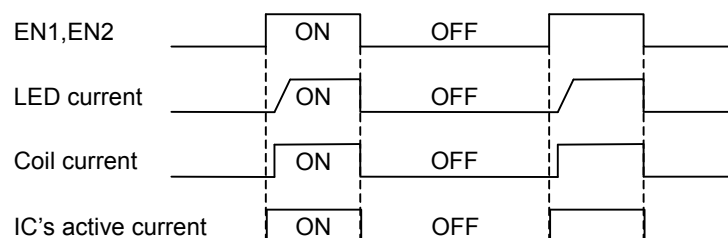

Figure 8. Power control PWM control
2)Power control PWM control is controlled by providing PWM signal to EN1, EN2 as it is shown Figure 8. The current setting set up with PWM logic is chosen as the H section of EN1, EN2 signal and the current is off as the L section. Therefore, the average LED current is increasing in proportion to duty cycle of EN1, EN2 signal. This method is, because IC can be power-off at off-time, the consumption current can be suppress, and the high efficiency can be available, so it makes it possible to brightness control until 50 μ s (MIN1% at 200Hz). And, don't use for the brightness control, because effect of power ON/OFF time changeover is big under 50 μ s ON time and under 50 μ s OFF time. There is no effect of ON/OFF changeover at 0% and 100%, so there is no problem on use. Typical PWM frequency is 100Hz to 1kHz.